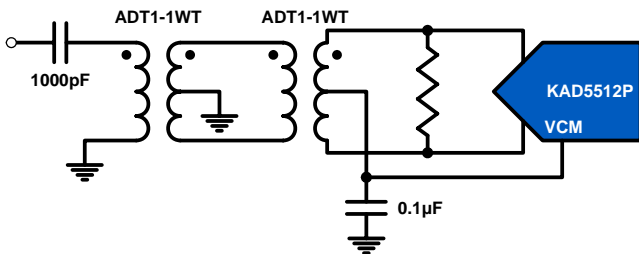

FIGURE 25. TRANSFORMER INPUT FOR GENERAL PURPOSE APPLICATIONS
Best performance is obtained when the analog inputs are driven differentially. The common-mode output voltage, VCM, should be used to properly bias the inputs as shown in Figures 25 through 27. An RF transformer will give the best noise and distortion performance for wideband and/or high intermediate frequency (IF) inputs. Two different transformer input schemes are shown in Figures 25 and 26.